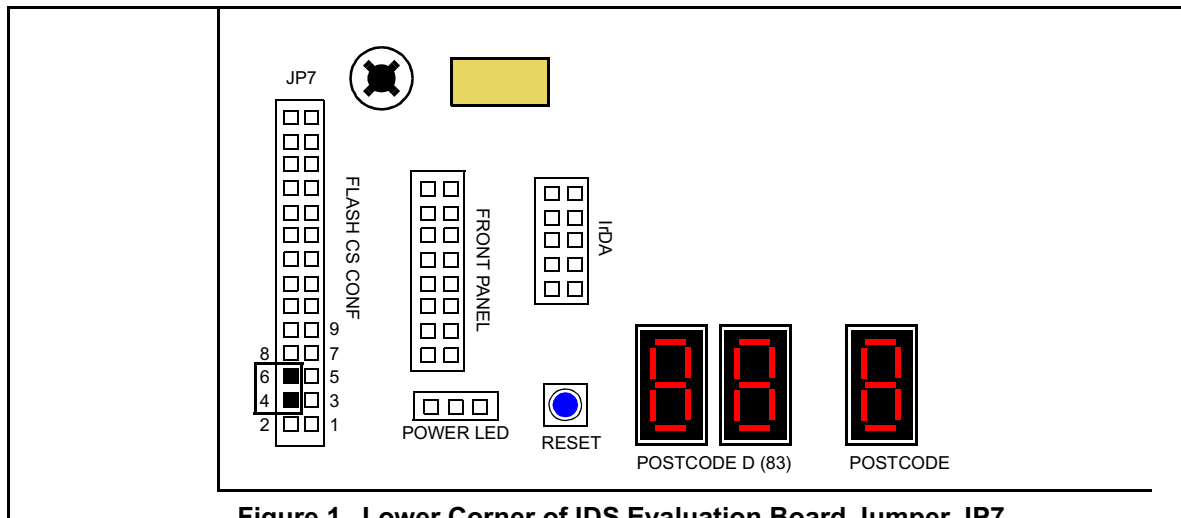

Figure 1. Lower Corner of IDS Evaluation Board Jumper JP7
2. Set the jumpers so that the ZF_x86 boots from the AMDFLASH (the board may be set already – newer systems arrive as such). Jumper pins 4 and 6 of the FLASH CS CONF jumper JP7, and set BOOTSTRAPS switch S3 #12 to OFF. See Figure 1.
Note that if you boot DOS from the GS/ATMEL, you need to change the FLASH CS CONF jumper JP7 from pins 3 and 5 to pins 4 and 6 (see Figure 1), and place S3 switch #12 to the right before executing the AMDFLASH utility.